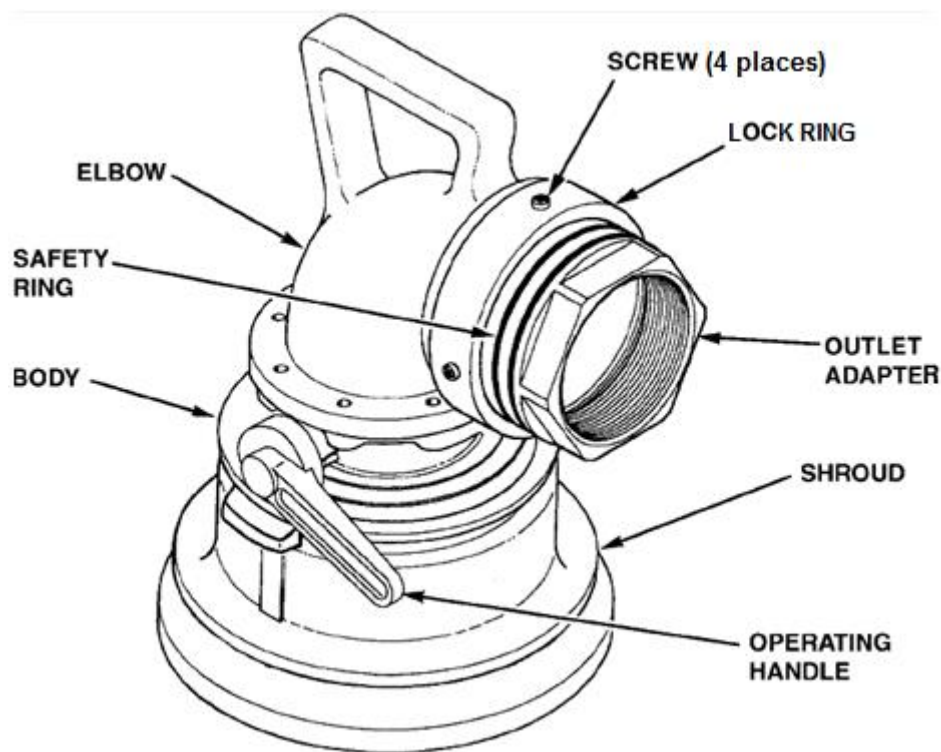

Figure 1. Hydrant Coupler
The Hydrant Coupler (coupler) (see Figure 1) provides the means of connecting 4-inch hydrants and adapters conforming to API Standard 1584. The various optional configurations permit the use of several thread and hose sizes. The major functional components of the hydrant coupler are the swiveling outlet adapter, the elbow, and the coupler body section.
A. Removing the Swivel Assembly from the Coupler Elbow (See IPL Figure 1)
1. Pull the inner safety ring (1) out of its groove and slide it back to the outer safety ring (1).
2. Loosen the screws (2) and washers (3) just enough to allow the lock ring (4) to slide back to safety rings (1).
3. The swivel body (8) can now be pulled off from the elbow (11).
B. Disassembly of the Swivel Assembly (See IPL Figure 1)
1. Pull the outer safety ring (1) out of its groove. Slide the outer and inner safety rings (1) and lock ring (4) from swivel body (8).
2. Remove the bearing balls (7) and ring quad (6).
C. Removing the Elbow from the Coupler Assembly (See IPL Figure 1)
1. Pull the retaining rings (5) out of its groove.
2. Remove screws (9) and separate elbow (11) and packing (10) from coupler assembly. Discard packing (10).